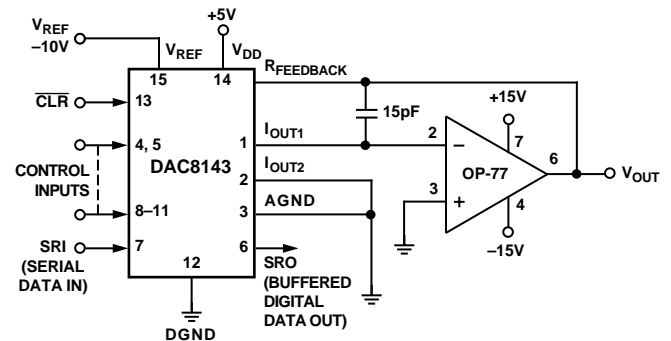

Figure 16. Unipolar Operation with High Accuracy Op Amp (2-Quadrant)
1. Phase compensation (see Figures 16 and 17).
The circuit shown in Figures 16 and 17 may be used with an ac or dc reference voltage. The circuit's output will range between 0 V and +10(4095/4096) V depending upon the digital input code. The relationship between the digital input and the analog output is shown in Table II. The  $V_{REF}$  voltage range is the maximum input voltage range of the op amp or  $\pm 25$  V, whichever is lowest.
1Nominal full scale for the circuits of Figures 16 and 17 is given by
2Nominal LSB magnitude for the circuits of Figures 16 and 17 is given by
The transfer function for the DAC8143 connect in the multiplying mode as shown in Figures 16 and 17 is:
In most applications, linearity depends on the potential of IOUT1, IOUT2, and AGND (Pins 1, 2 and 3) being exactly equal to each other. In most applications, the DAC is connected to an external op amp with its noninverting input tied to ground (see Figures 16 and 17). The amplifier selected should have a low input bias current and low drift over temperature. The amplifier's input offset voltage should be nulled to less than  $\pm 200 \mu\text{V}$  (less than 10% of 1 LSB).